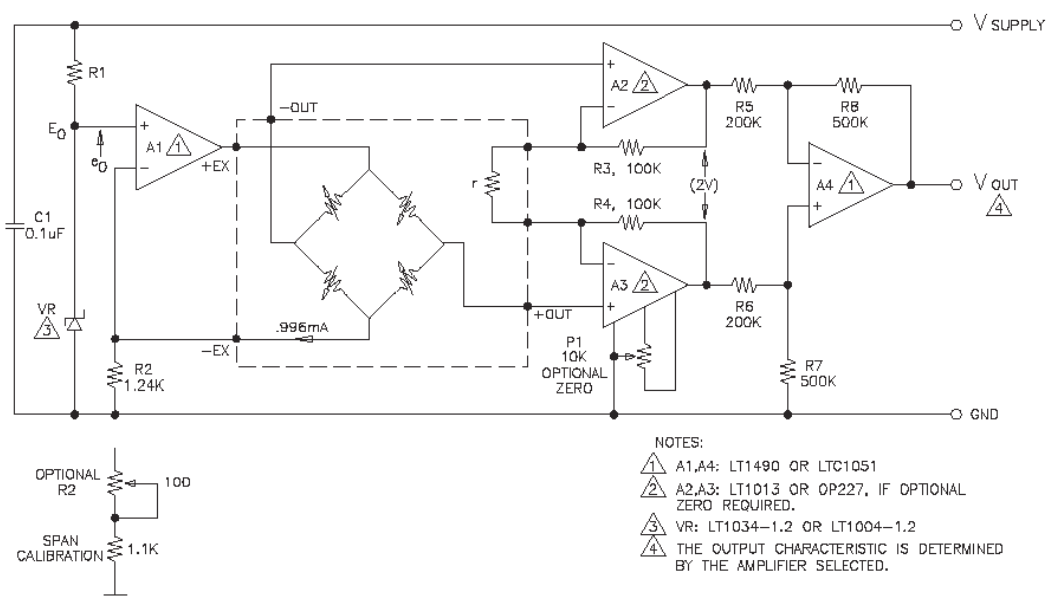

Figure 2 - Simple Signal Conditioning Circuit
The signal conditioning circuit shown in Figure 2 provides a precision constant current source for sensor excitation and an instrumentation amplifier with the gain programmed by sensor feedback resistor r . To correct for pressure non-linearity or to generate output options other than 0-5V please refer to Technical Note TN-001, "Signal Conditioning for IC Pressure Sensors."
If additional calibration and normalization are desired, resistor R_2 can be replaced with a series combination of a potentiometer and a resistor (Figure 2). The potentiometer can be adjusted to set the bridge excitation current (I) to achieve the exact span voltage (S) with full scale pressure applied to the sensor.